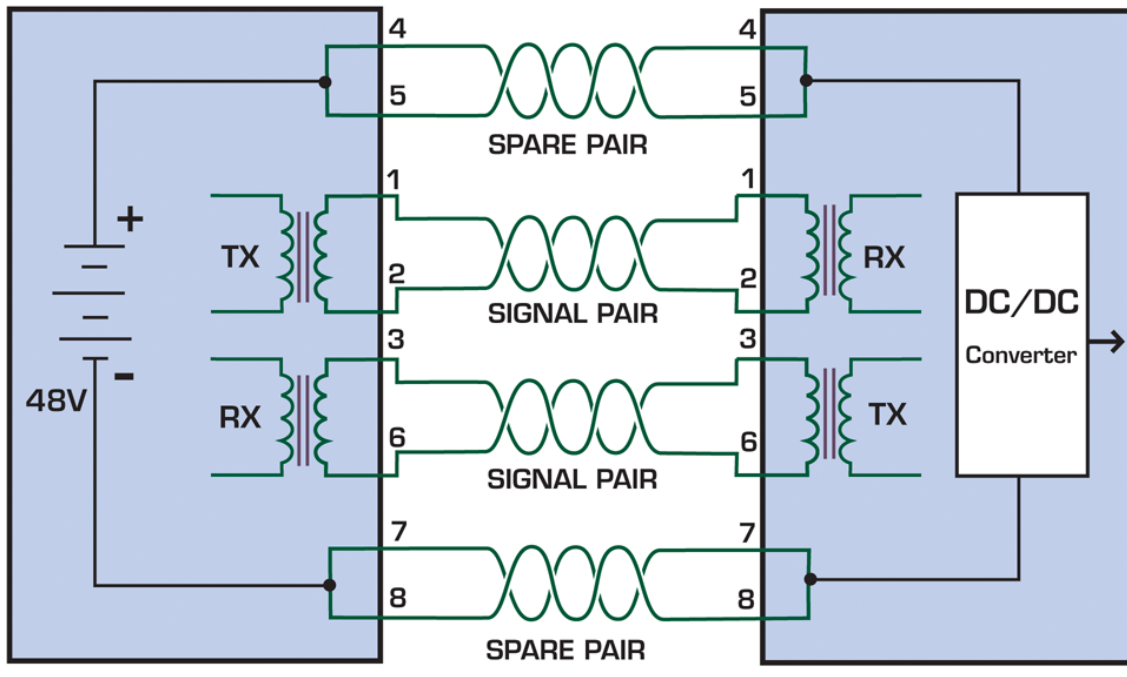

Figure 2 - Power through the Cable on the Data Pairs
2. If the data pairs of the CAT5 cable are to be used to transfer the power, the pair on pins 3 and 6 and the pair on pins 1 and 2 (either polarity) can be used as showed in figure 2 below. This approach can be achieved without interruption to the data transfer. Since the Ethernet pairs are transformers coupled at each end, we can apply a DC power at the center tap of the isolation transformer.